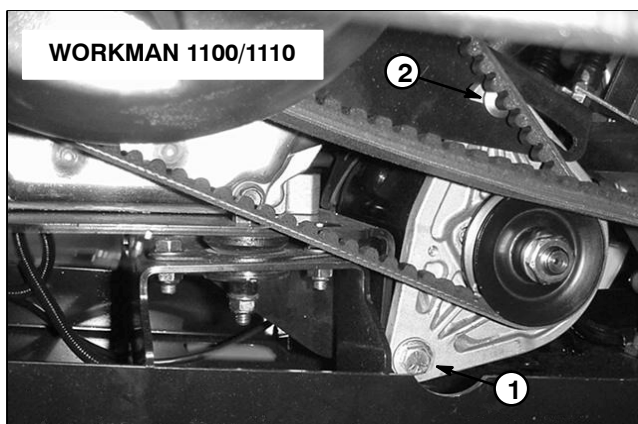

Figure 20
6. On the Workman 1100 and 1110 (Fig. 20):
4. On the Workman 1100 and 1110 (Fig. 20):